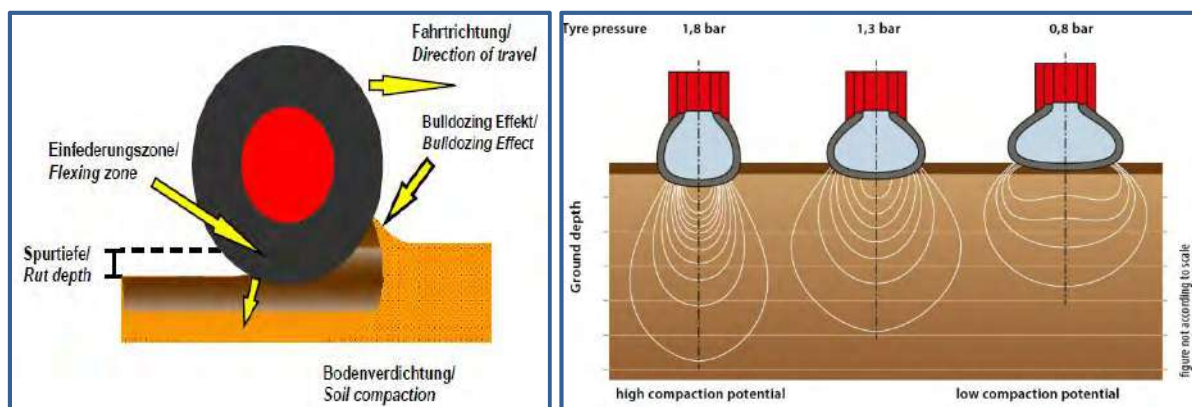

Fig 80: Fuel consuming bulldozing effect and soil compaction due to too loose soil (Volk, 2011) and soil compaction related to tire pressure (AGCO, 2017)
- Avoid tilling the soil too frequently and too intensively. Too loose soil can create a bulldozing effect and lead to soil compaction (fig 80)